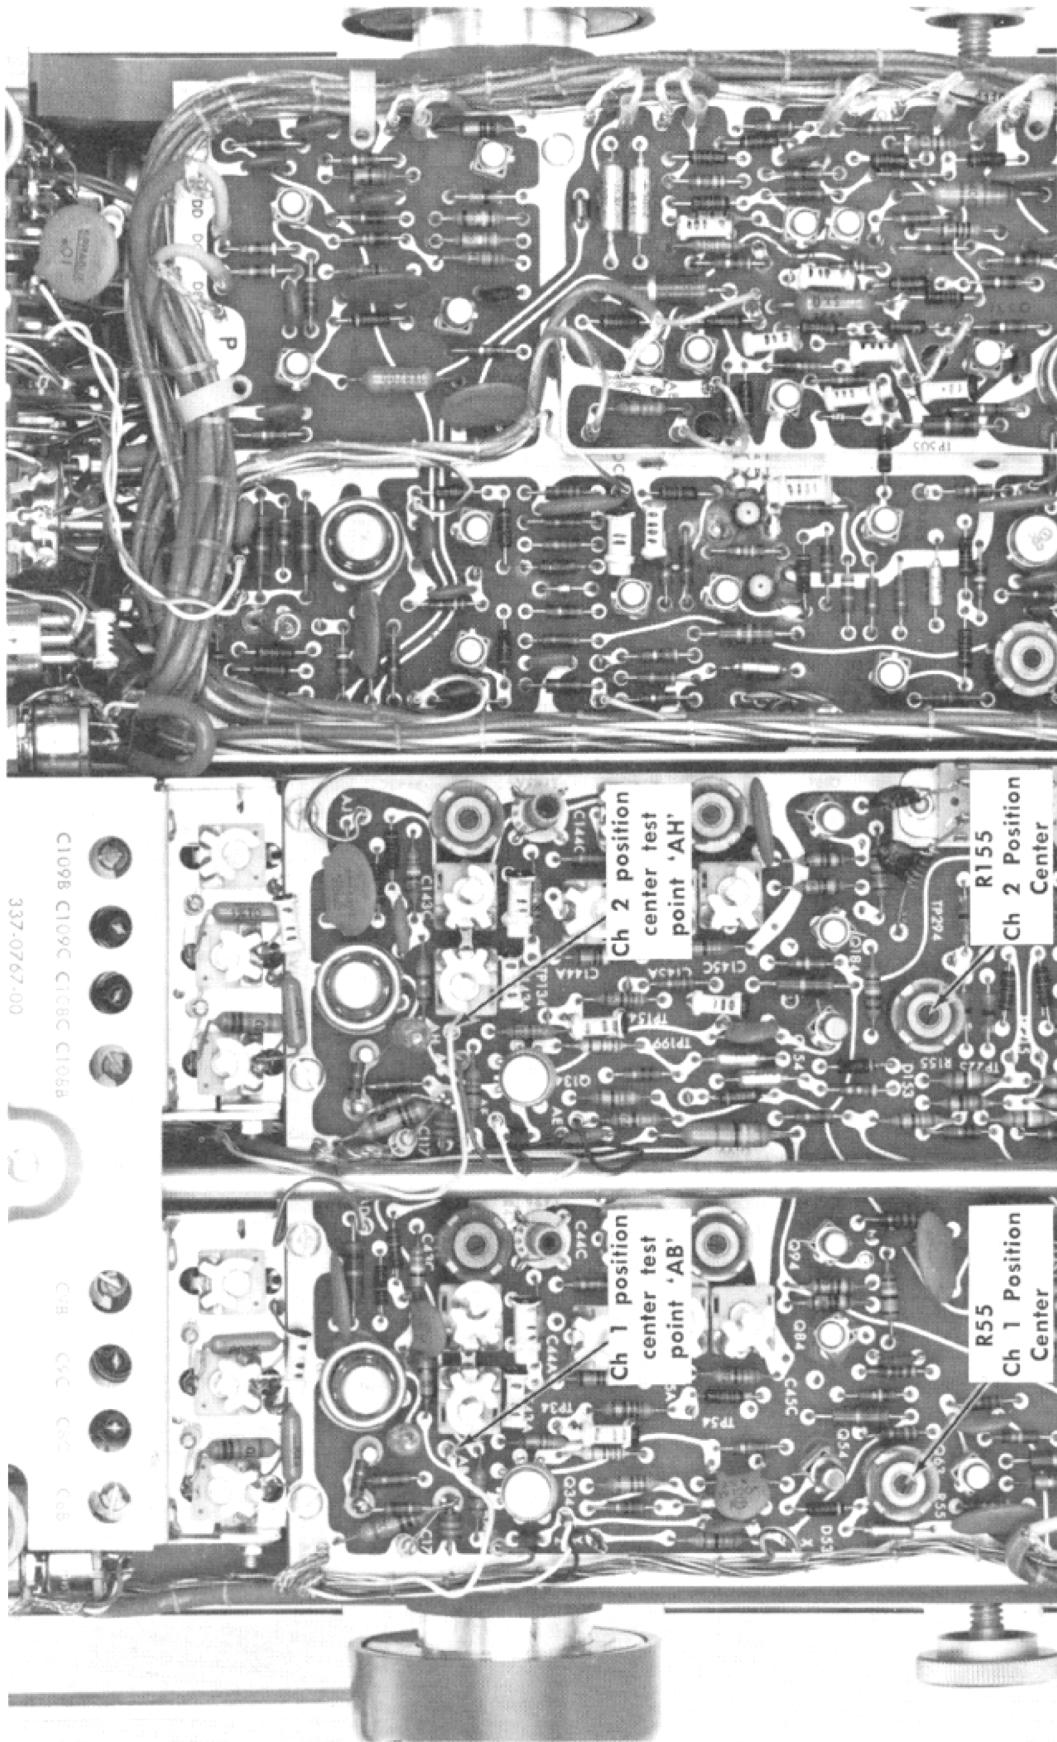

Fig. 6-19. Location of Channel 1 and 2 position center test points and adjustments (Vertical Preamp board).
- a. Connect the dc voltmeter to the Ch 2 position center test point (pin connector 'AH') on the Vertical Preamp board (see Fig. 6-19).
- d. Adjust—Ch 2 Position Center adjustment, R155 (see Fig. 6-19), to position the trace to the centerline.
- f. Connect the dc voltmeter to the Ch 1 position center test point (pin connector 'AB') on the Vertical Preamp board (see Fig. 6-19).
- i. Adjust—Ch 1 Position Center adjustment, R55 (see Fig. 6-19), to position the trace to the centerline.